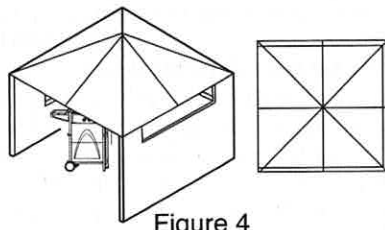

Figure 4
- One wall that is equivalent to at least 25% of the total wall area is completely open. (figure 4)